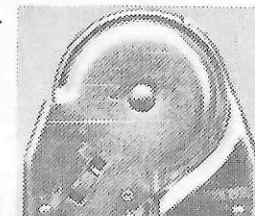

Figure A-1
A. The hinge, located at the top of the ladder, permits you to alter the shape of the ladder (FIGURE A-1).